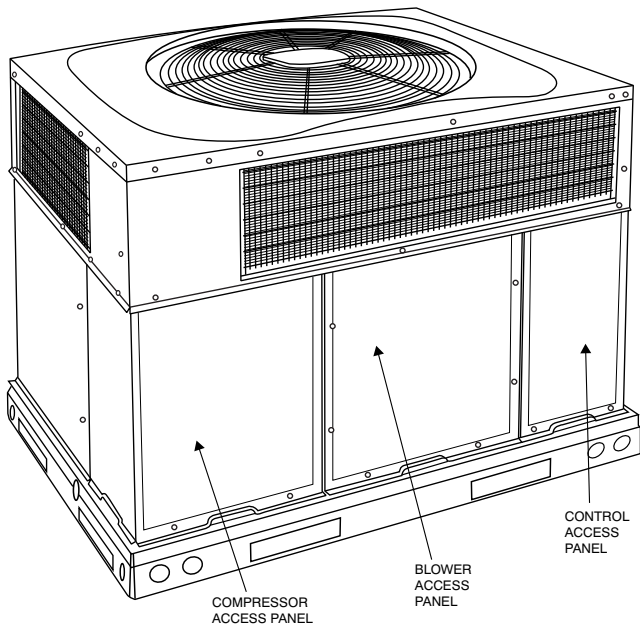

Fig. 26 – Unit Access Panels
- g. Reinstall blower access panel (see Fig. 26).
Remove access panels (see Fig. 26 to locate all the electrical controls and wiring. Before working with or handling any electrical components, make sure that all capacitors are properly discharged to avoid possibility of sparking. Replace components only with parts specified by the manufacturer. Other parts may result in the ignition of refrigerant in the atmosphere from a leak. Check all electrical connections for tightness. Tighten all screw connections. If any discolored or burned connections are noticed, disassemble the connection, clean all the parts, restrip the wire end and reassemble the connection properly and securely.